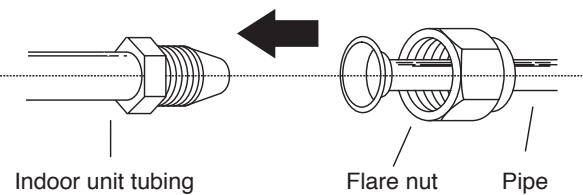

Fig. 5.7
- 2. Align the center of the two pipes that you will connect. See Fig. 5.7